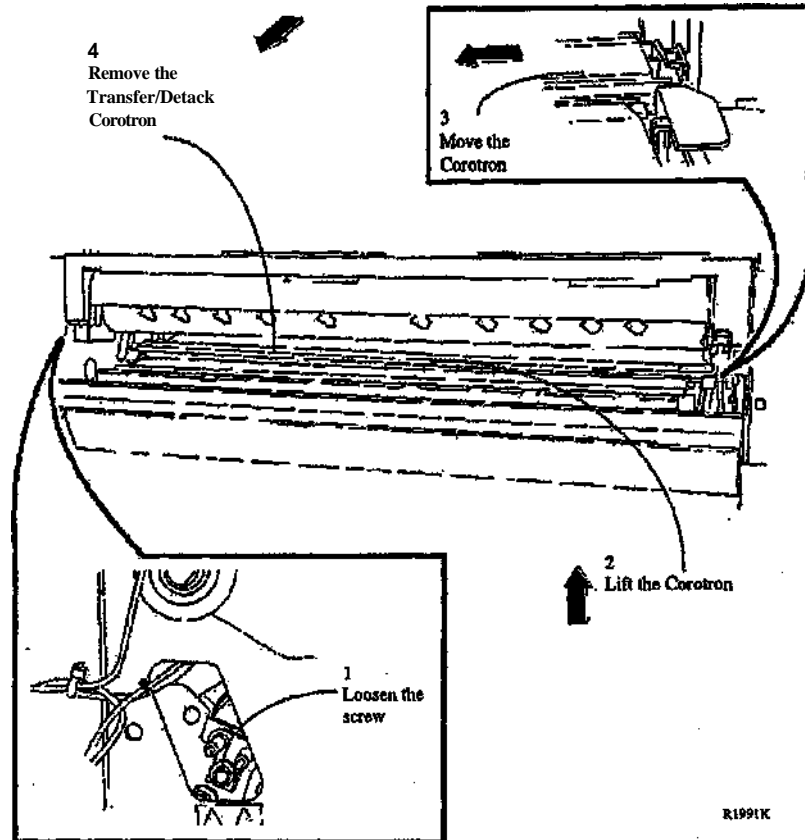

Figure 1. Removing the Transfer / Detack Corotron
2. (Figure 1): Lower the Media Transport Cover and remove the Transfer / Detack Corotron.